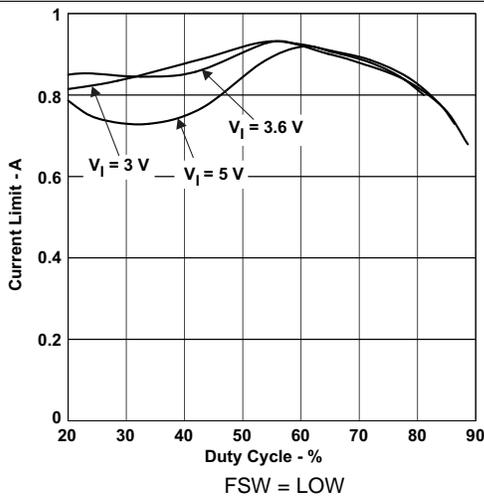
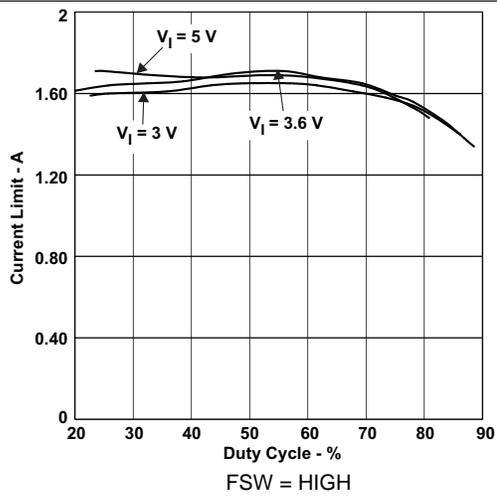

Figure 5. TPS61080 Overcurrent Limit
Figure 8. TPS61081 Overcurrent Limit
(1) V_{IN} = 3.6 V, V_{OUT} = 15 V, Duty cycle = 76%. See Figure 5 to Figure 8 for other operation conditions.
(2) OUT short circuit condition is detected if OUT stays lower than V_{IN} – V_{SC} for 1.7 ms after IC enables. See the Start Up section for details.
To minimize the variation in the overcurrent limit threshold, the TPS6108x uses the VIN and OUT pin voltage to compensate for the variation caused by the slope compensation. However, the threshold still has some dependency on the VIN and OUT voltage. Use Figure 5 to Figure 8 to identify the typical overcurrent limit in your application, and use 25% tolerance to account for temperature dependency and process variations.